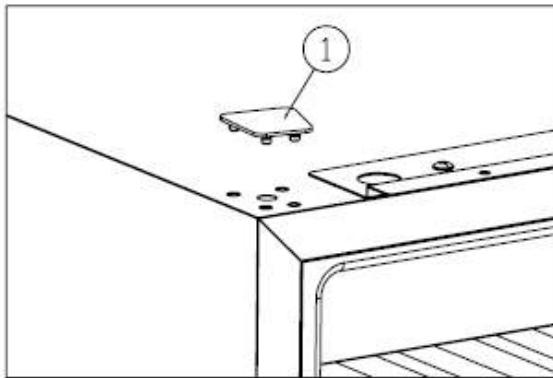

Figure 3
- ❖ Removethegerminal lid①.[Figure 3]